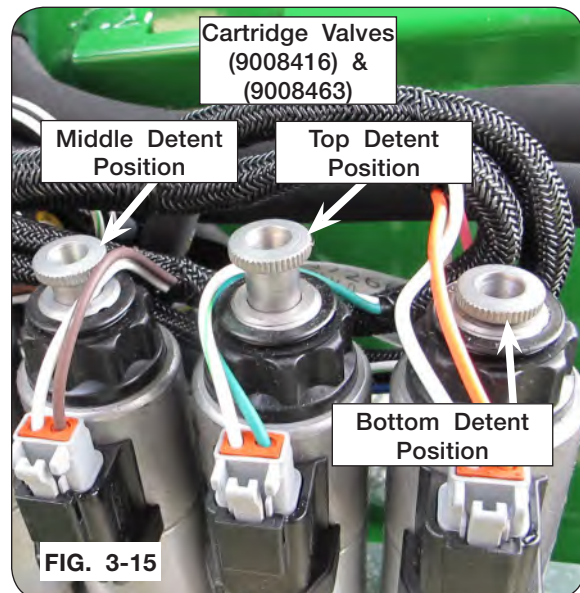

FIG. 3-15
NOTE: Only one cartridge valve (9008416 & 9008463) must be in the top or bottom detent position at a time to function properly. All other valves must be in the middle detent position. (FIG 3-15 & 3-16)
5. Operate the desired function on valve (9008416 & 9008463) by rotating the manual override knurled knob from the locked neutral position. (FIG. 3-15 & 3-16)
8. Return knurled knob to center and lock valve (9008416) & (9008463) in position. (FIG. 3-15 & 3-16)